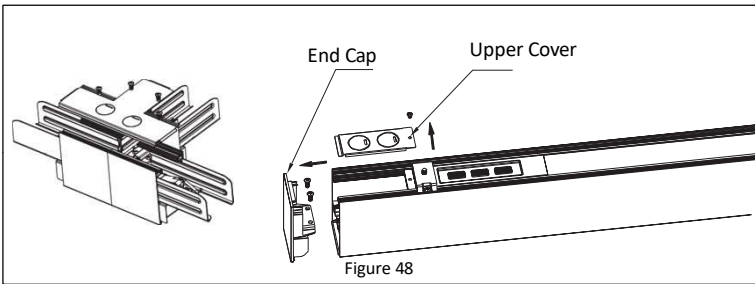

Figure 48
1. Remove the upper cover from both the “T” connector and the fixtures. Then remove the end cap from each fixture. See **Figure 48**.